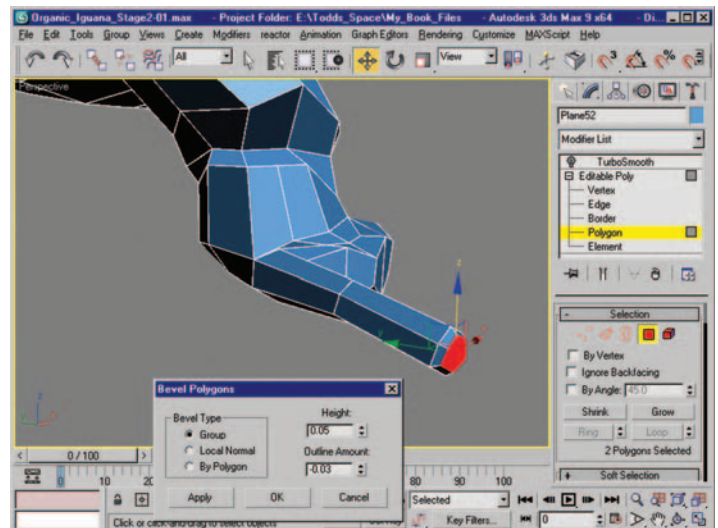

Figure 9.63 Polygon selection after applying the Bevel settings shown.
25. Select the two polygons seen in Figure 9.63 and use the Bevel settings shown to create the tip area where the claw will grow out of.